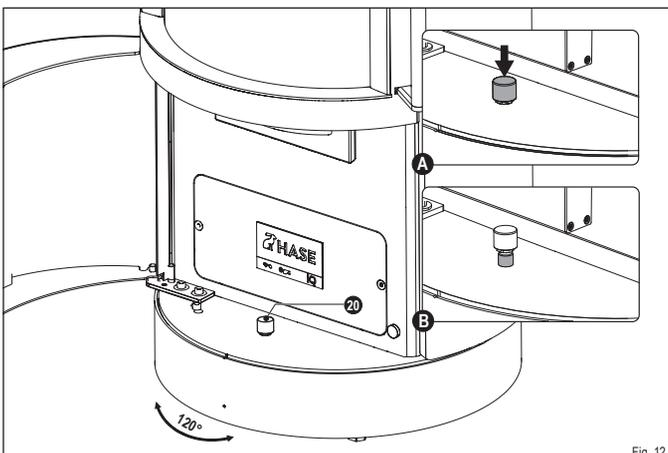

Fig. 12
The stove has a maximum rotation angle of 120 degrees (Fig. 12).
On delivery, the button (20) on the rotating console is in the locked position (Fig. 12):
- ▶ **Press the button (20) to unlock (Section A).**
- ✓ **Once in the desired position, press the button (20) again to lock the rotating console again.**